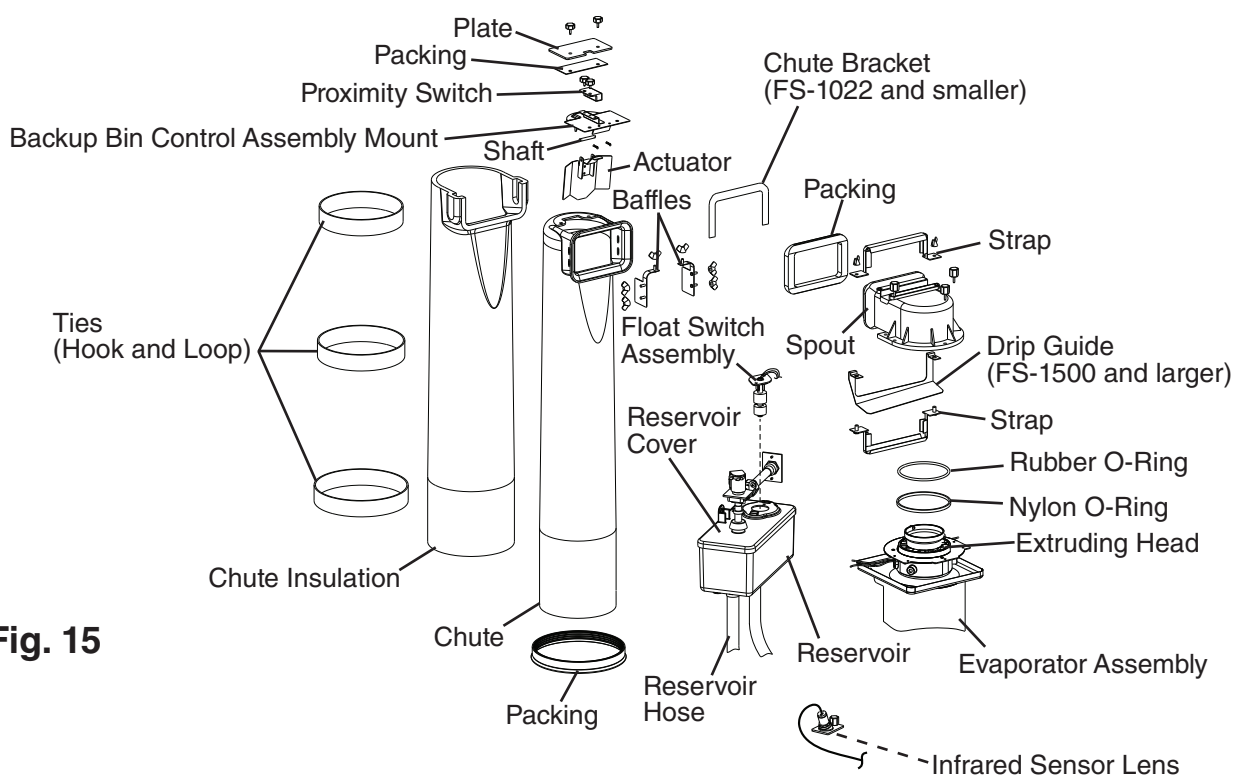

Fig. 15
- 6) Remove the strap connecting the spout to the chute assembly, then remove the spout. See Fig. 15.